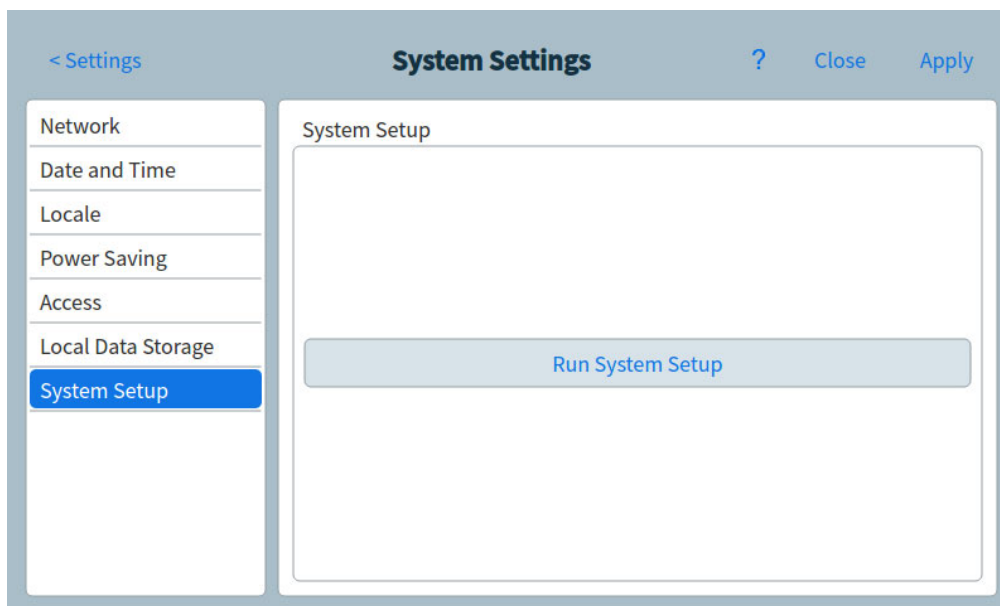

Figure 60. System Setup page
- 1 From the System Settings page, select the **System Setup** page selection button. The System Setup page appears. See Figure 60.